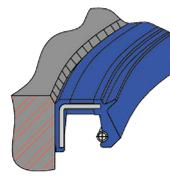

Fig. 2
3. Tool chatter on chamfer surface (Fig. 2)	Review machining procedures for proper tool configuration, feed, speed and coolant.